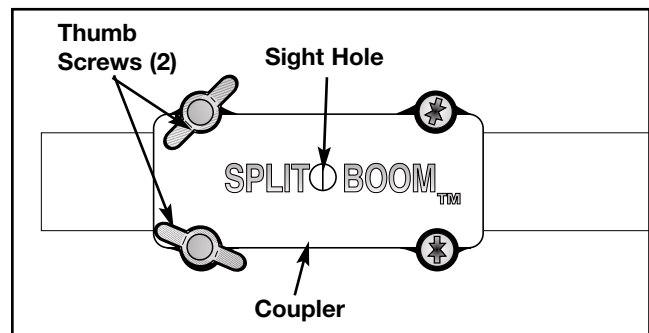

Fig. 13
2. Remove the protective cover or hanger from the lower (attachment) boom. Push the lower (attachment) boom into the coupler (Fig. 13).
4. Check the sight hole to make sure both ends of the boom are together (Fig. 13). Tighten the wing screws before using the unit.